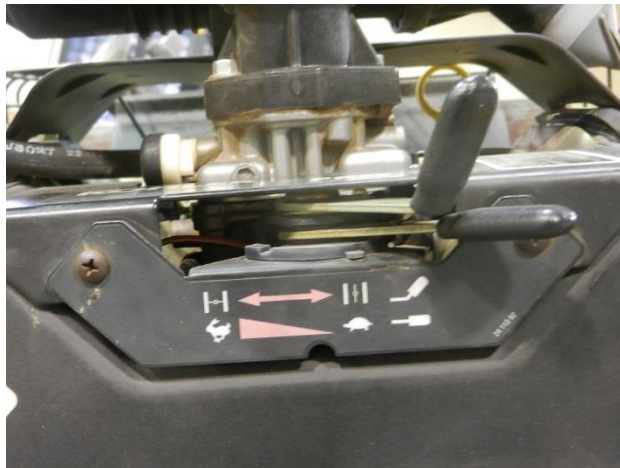

Figure 3.2
- b. Engage **Greenwheel®** and move the engine throttle to Fast. (Figure 3.2)